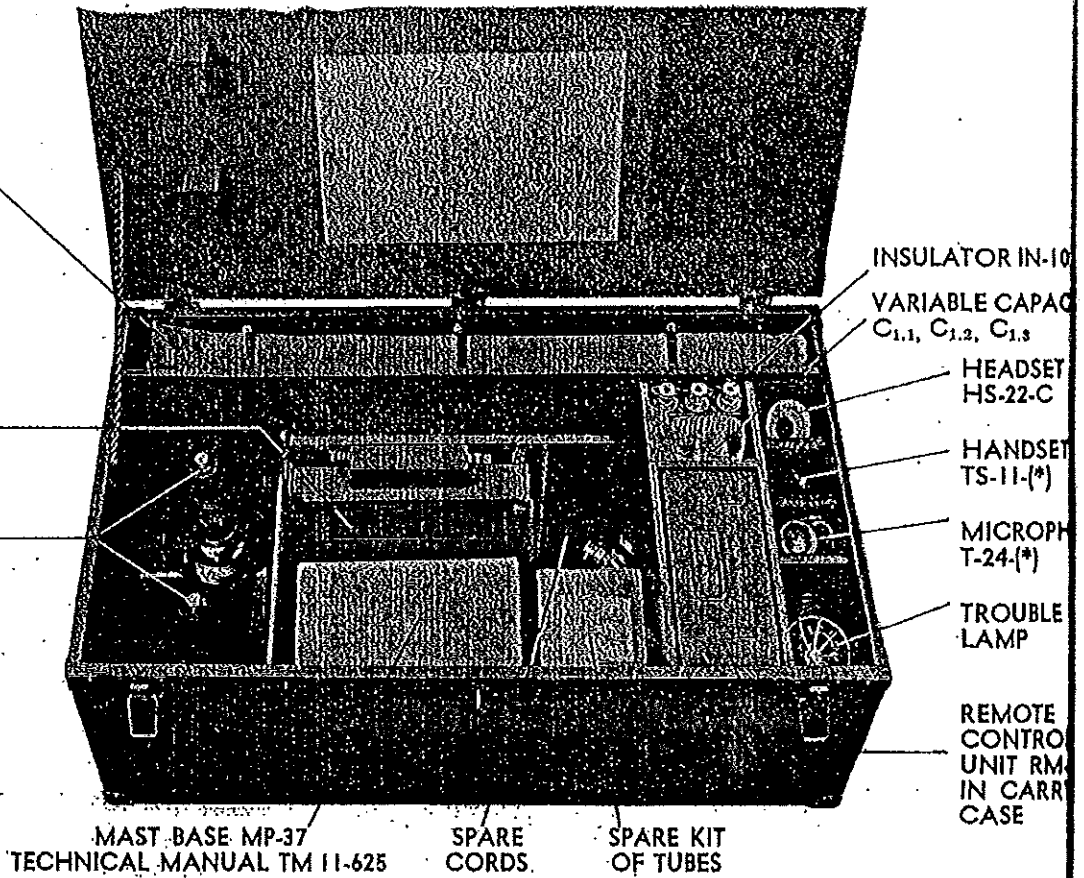

Fig. 6 - Chest CH-73-A, With Tray Removed.
- (7) The fifteen foot length of Wire W-128 is used in vehicular installations to connect the antenna mast base to the antenna terminal on the receiver and transmitter.
- (8) Handset TS-11-(*), is used with Remote Control Unit RM-21-(*), for listening to the receiver and for voice-modulating the transmitter.
- (9) Headset HS-22-C (in Radio Set SCR-543-A) is used with Microphone T-24-(*), in place of Handset TS-11-(*), when so desired.
- (10) Headset HS-30-(*), (in Radio Set SCR-543-B, C) connected to Cord CD-605 or to Cord CD-307-A with Cord CD-604 is used with Microphone T-24-(*), in place of Handset TS-11-(*), when so desired.
- (11) Microphone T-24-(*), is used with Headset HS-30-(*), connected to Cord CD-605 or Headset HS-22-C in place of Handset TS-11-(*), when so desired.
- (12) Counterpoise CP-15-(*), replaces the use of a direct ground connection. It consists of 8 radial wires connected to a central point with a connecting lead for attaching to the radio set ground.
c. Chest CH-73-(*).—(See Figures 6 and 7).—
- (1) This chest is for storage of all component units or accessories not stored in Chests CH-131-(*), CH-132-(*), or CH-133-(*), together with service tools and spare parts. Chest CH-73-(*), is made of heavy plywood and has a hinged lid to get at the interior. A removable wooden tray as well as several compartments provide for storage of individual items, keeping them separated so that removal of one item will not cause the others to be loosened. Contained in this chest are: